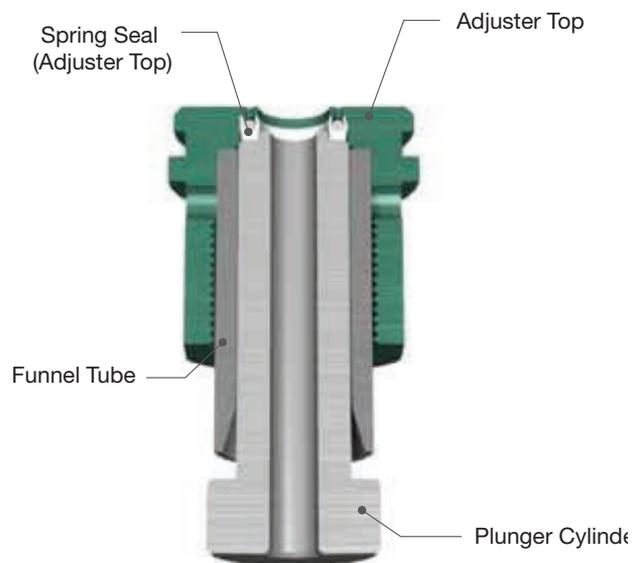

Figure 23: Plunger Cylinder
- (vii) Push down on Plunger cylinder to insert Spring Seal (Adjuster Top) into Adjuster Top as shown in Figure 23.